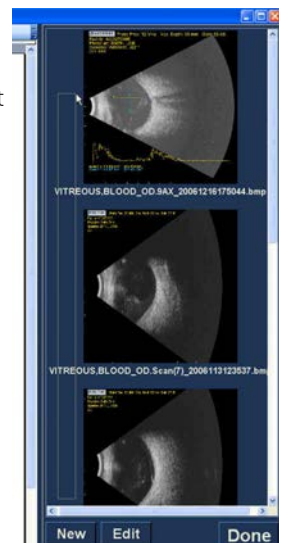

Figure 7.9 - Selecting Snapshots
1. Left click and hold on the mouse in the blue area near the first snapshot, then drag until you select all snapshots you would like to place in the report as shown in Figure 7.9.
3. A maximum of four (4) snapshots can be selected at any one time. If you need to insert more than four snapshots, select the first four and insert them, then select up to four more and insert them. Continue selecting and inserting until all snapshots are inserted.